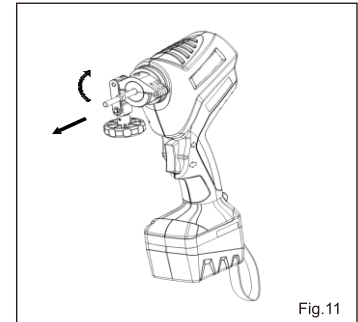

Fig.11
4.1 Detach the expander body from the main unit by reversing the installation steps. (Fig.11)